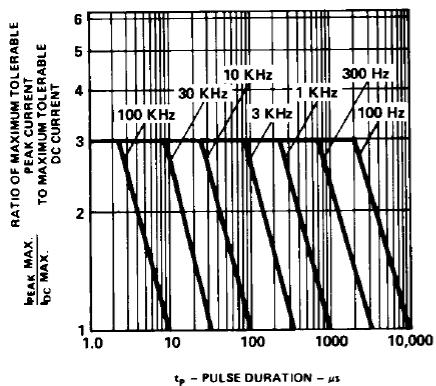

Figure 5. Maximum tolerable peak current vs. pulse duration ($I_{DC\ MAX}$ as per MAX ratings).
1. See Figure 5 (Red), 10 (Yellow), or 15 (Green) to establish pulsed operating conditions.